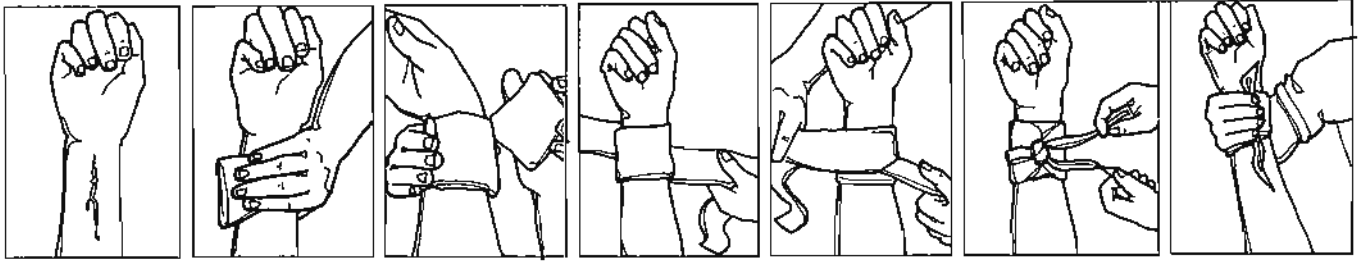

Figure 12-5. Check a pressure bandage frequently for signs of excessive pressure.
* A pressure bandage can replace direct hand pressure on most body parts. Center the bandage over the dressing, wrap the ends around the body part and tie the knot directly over the dressing (Figure 12-5).